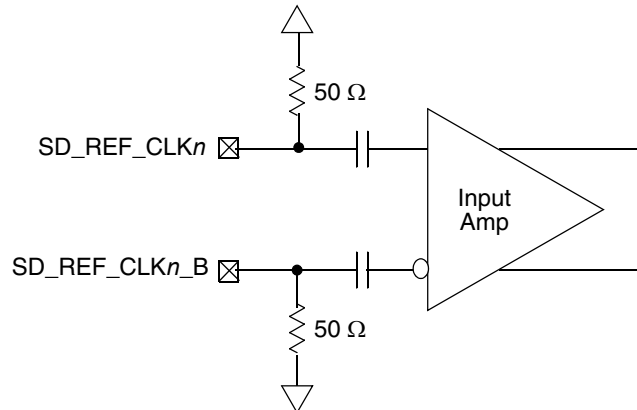

Figure 35. Receiver of SerDes Reference Clocks
- The `SD_REF_CLKn` and `SD_REF_CLKn_B` are internally AC-coupled differential inputs as shown in Figure 35. Each differential clock input (`SD_REF_CLKn` or `SD_REF_CLKn_B`) has on-chip 50- Ω termination to SGND followed by on-chip AC-coupling.